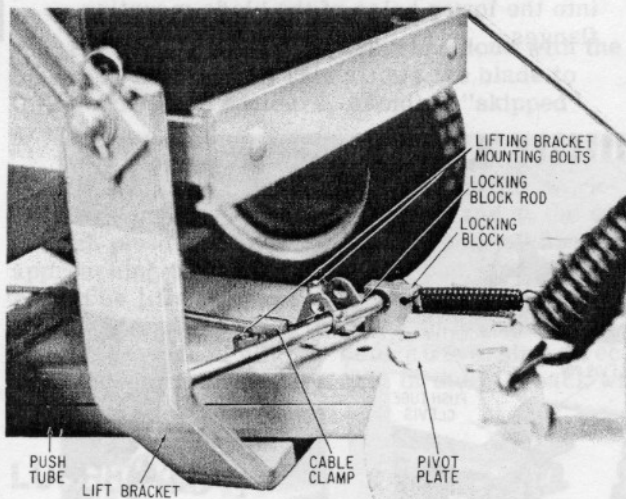

Figure 2
3. Secure the lift bracket to the bottom side of the push tube with bolts, lockwashers and nuts as shown in Figure 2.